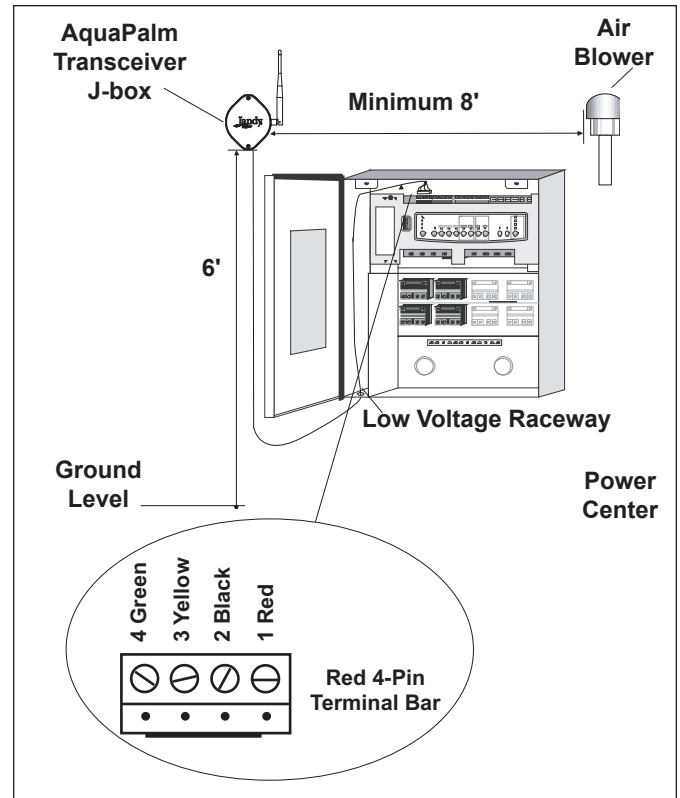

Figure 4. Outdoor Transceiver J-box Installation
2. Mount the Outdoor Transceiver J-box at least 6' above the ground and at least 8' from any air blowers that may be in the vicinity (see Figure 4).